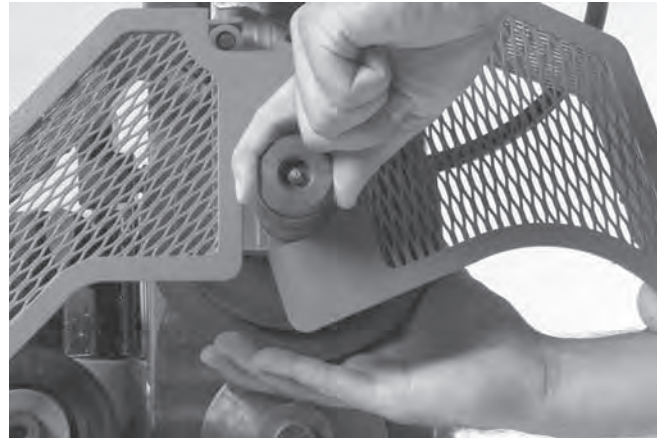

Figure 19 – Removing Upper Roll Shaft
4. Remove the upper roll shaft and upper roll (*Figure 19*). Be sure the upper groove roll is supported. The groove upper rolls weigh up to 14 pounds and could drop suddenly.